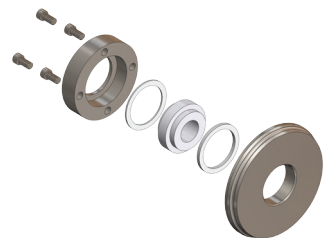

Figure No. 9
5. Assemble 'DG' seal back plate. (see figure no.9)